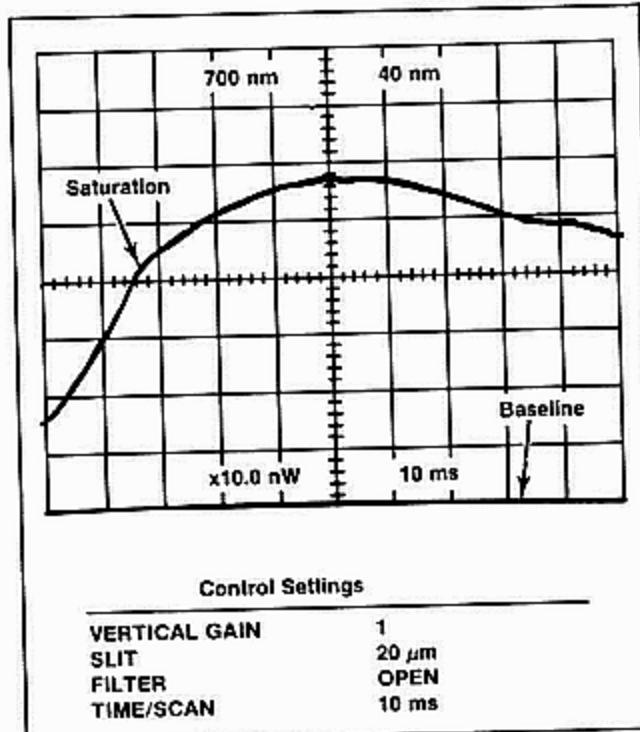

Fig. 1. Spectral display showing vidicon saturation.
5. Determine the vidicon saturation level. Refer to the appropriate section of the J20/7J20 Rapid-Scanning Spectrometer Operators Instruction Manual for instructions on determining vidicon saturation. See Fig. 1.